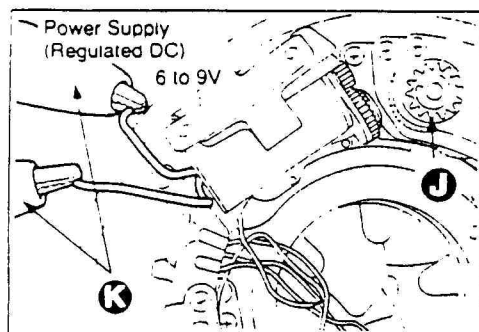

Fig. 11
2. Before assembling the motor and gear train ass'y, revolve the gear (J) with a finger for confirming that all the gears rotate smoothly and then assemble. (See Fig. 11.)
After assembling, let the 6V to 9V electric current flow to the cord (K) of the motor and confirm revolution. (See Fig. 11.)